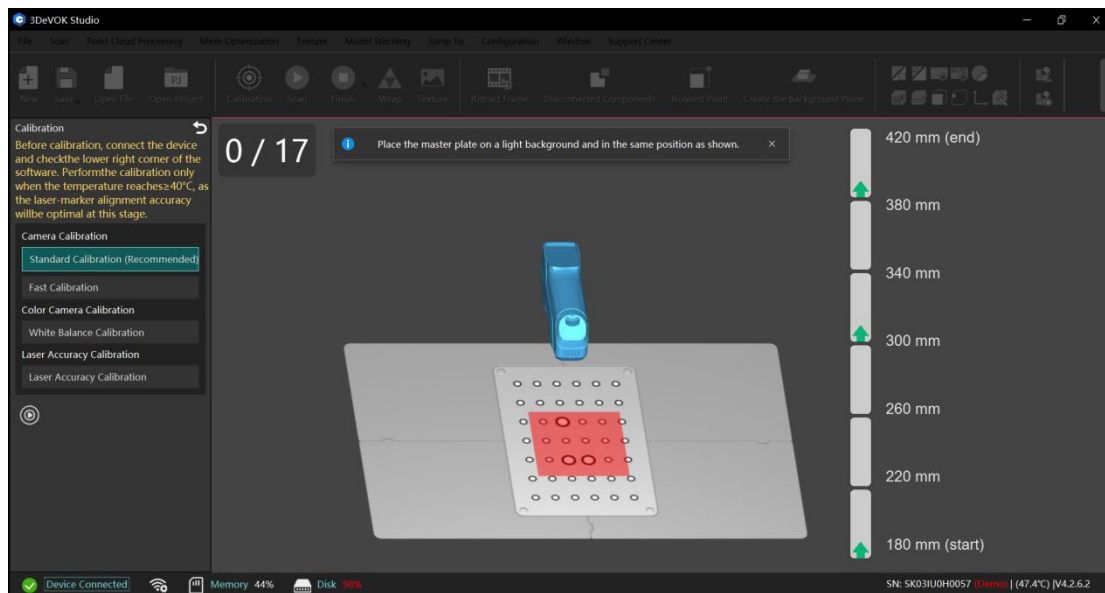

Figure 6-2 Standard Calibration
2. Click **Calibration** for device calibration, and follow the steps shown in Figure 6-2.